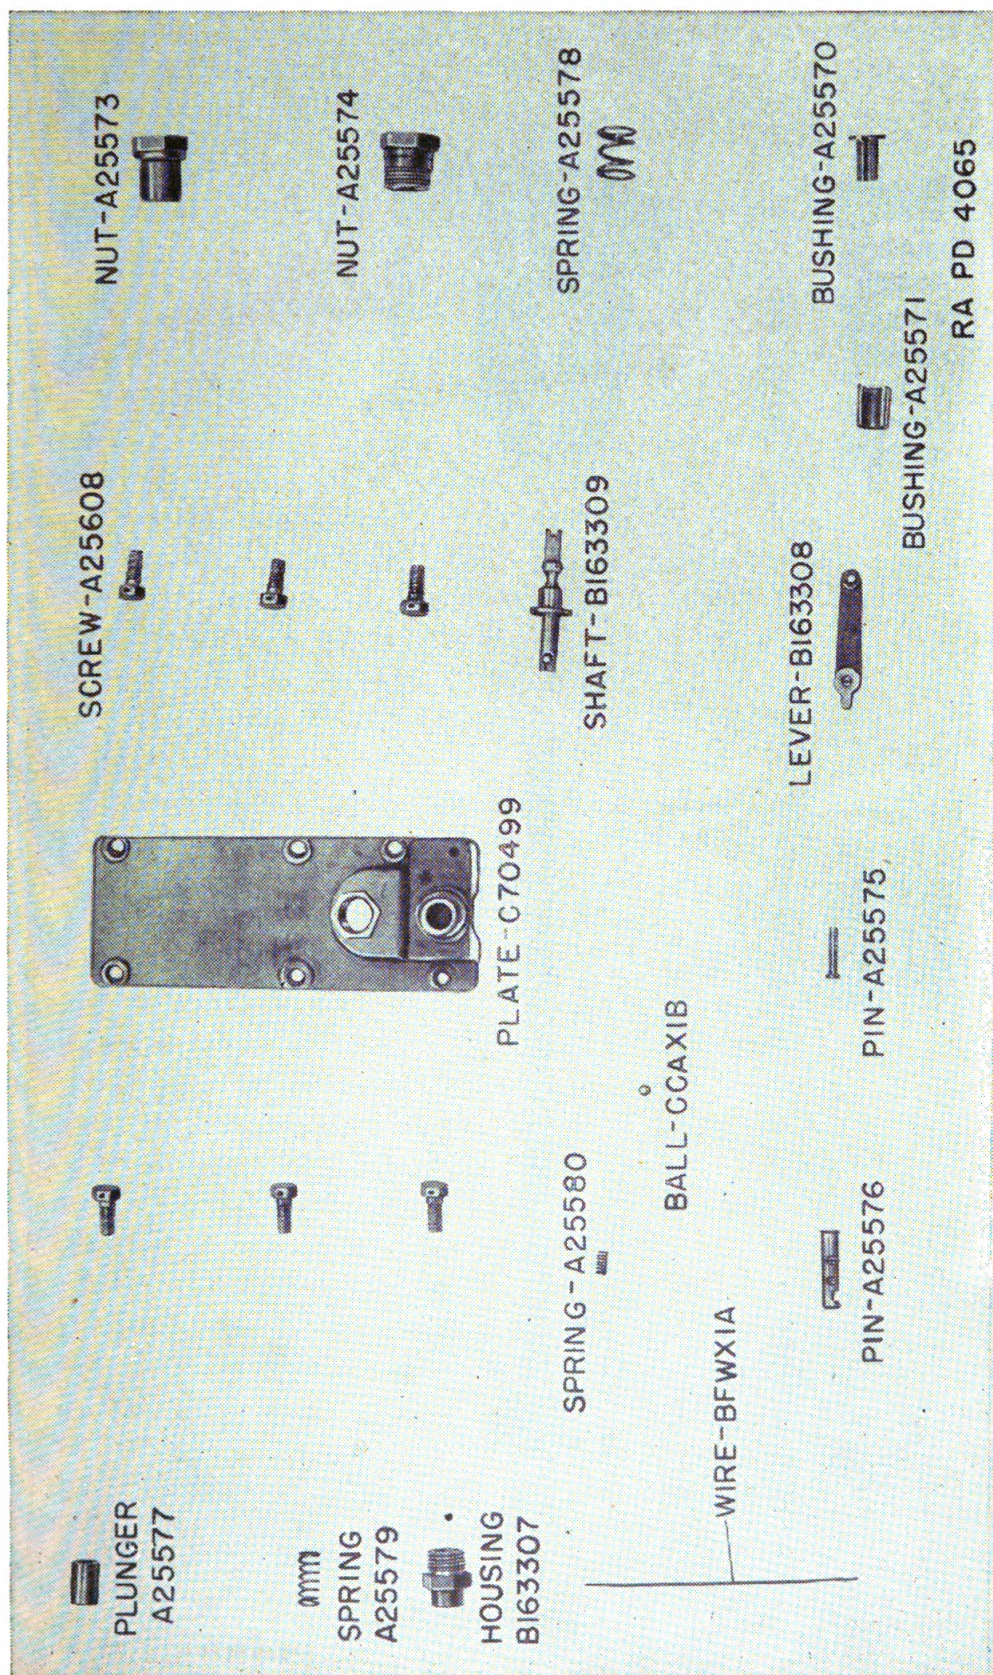

FIGURE 14.—20-mm automatic gun M2, trigger and housing group parts.
(1) Unscrew sear spring housing and remove sear spring and plunger. Unscrew bowden connection nut and remove bowden connection outer and inner bushings. Unscrew bowden shaft housing nut and remove bowden connection shaft spring and shaft (fig. 14).
(2) Remove safety lever pin and safety lever. Remove safety trigger pin and the locking pin spring with the ball.